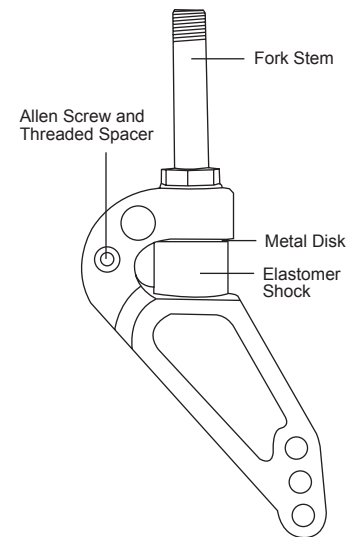

Figure 117
Note: If your chair is equipped with Frog Legs®, you must square the receiver to the level surface because the flat edge of the Frog Legs® fork (see Figure 117 on page 82) is not parallel to the receiver.
1. Remove Allen Screws from hinge and push out the threaded spacer. See Figure 117.